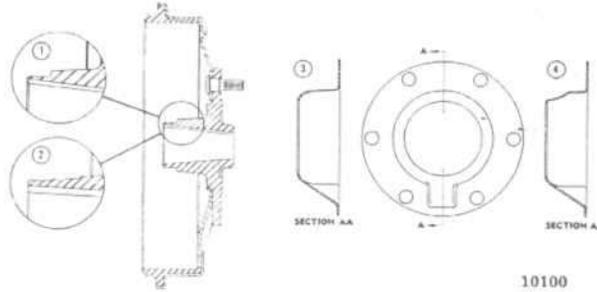

FIG. 295—GREASE PROTECTOR IDENTIFICATION
Only the later grease protector (Fig. 295, No. 3) can be used with the later hub and brake drum assembly (1). Either grease protector can be used with the earlier hub and brake drum assembly (2).